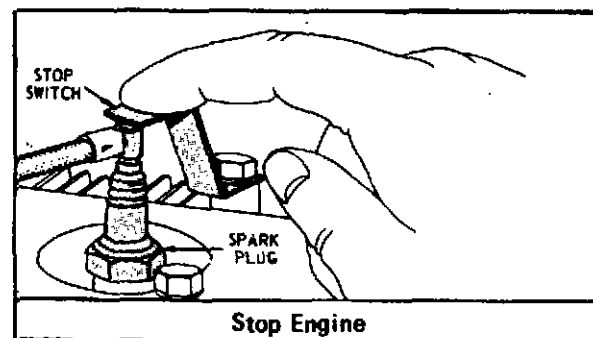

Figure 13
**WARNING:** On spark plug, stop lever models, a severe shock will result if the terminal of spark plug is touched while pushing stop lever toward the spark plug. See Figure 13.